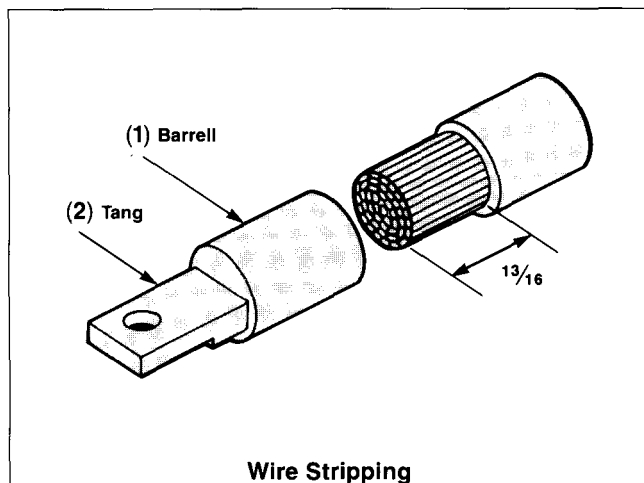

Figure 1
- Preform cables to final configuration and strip insulation back 1 1/8 in. on each conductor. Use an appropriate insulation stripping tool to avoid damaging the conductor. (See Figure 1.)
- Remove cap from compression connector and insert cable fully into barrel (1) (Figure 1) of connector.
- Insure that connector tang(s) (2) (Figure 1) are in their proper orientation prior to crimping. This helps avoid twisting of cables during installation.